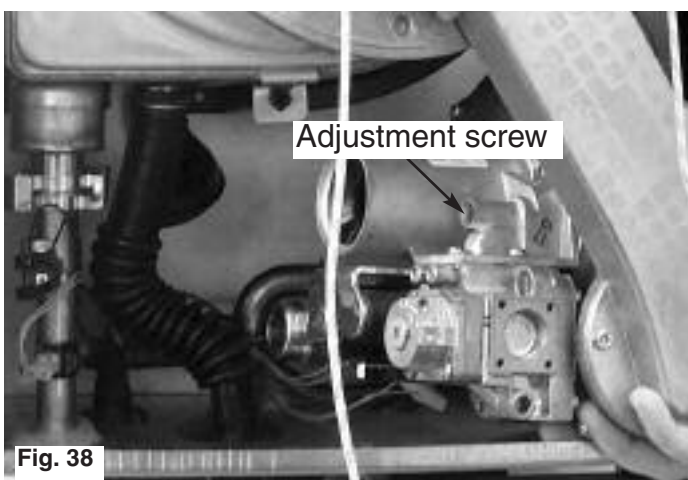

Fig. 38
5. Adjust the screw on the gas valve (Fig. 38) to set the CO2 to 9.2% +/- 0.2% (NG) or 10% +/- 0.2% (LPG);
6. Press the setting button  once to set the combustion control rate mode to minimum, and, if necessary, adjust the screw on the gas valve to set the CO2 to 9.2% +/- 0.2% (NG) or 9.2% +/- 0.2% (LPG);
7. Press the setting button  again to set the combustion rate control mode to maximum and if necessary adjust the screw on the gas valve to set the CO2 to 9.2% +/- 0.2% (NG) or 10% +/- 0.2% (LPG);